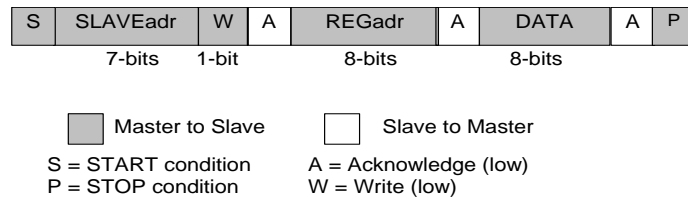
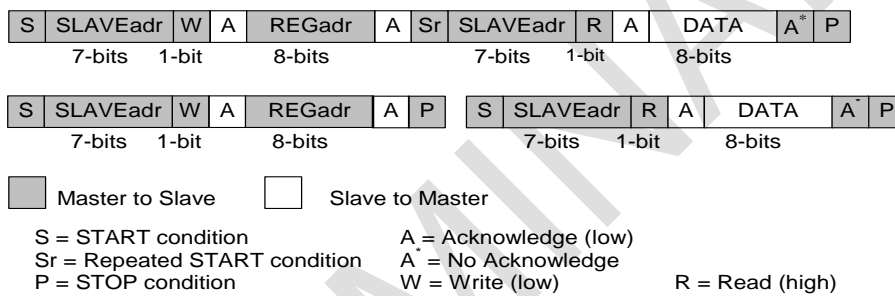

Figure 14: I²C Byte Write (SDA Line)
Figure 15: I²C Byte Read (SDA Line) Examples
The I²C bus is monitored for a valid slave address whenever the interface is enabled. It responds immediately when it receives its own slave address. The acknowledge is done by pulling the SDA line low during the following clock cycle (white blocks marked with A in Figure 14 and Figure 15).
The protocol for a register write from master to slave consists of a START condition, a slave address with read/write bit, and the eight-bit register address followed by eight bits of data, terminated by a STOP condition. DA9132-A responds to all bytes with acknowledge (A), see Figure 14.
When the host reads data from a register it first has to write to DA9132-A with the target register address and then read from DA9132-A with a repeated START, or alternatively a second START, condition. After receiving the data, the host sends no acknowledge (A*) and terminates the transmission with a STOP condition, see Figure 15.